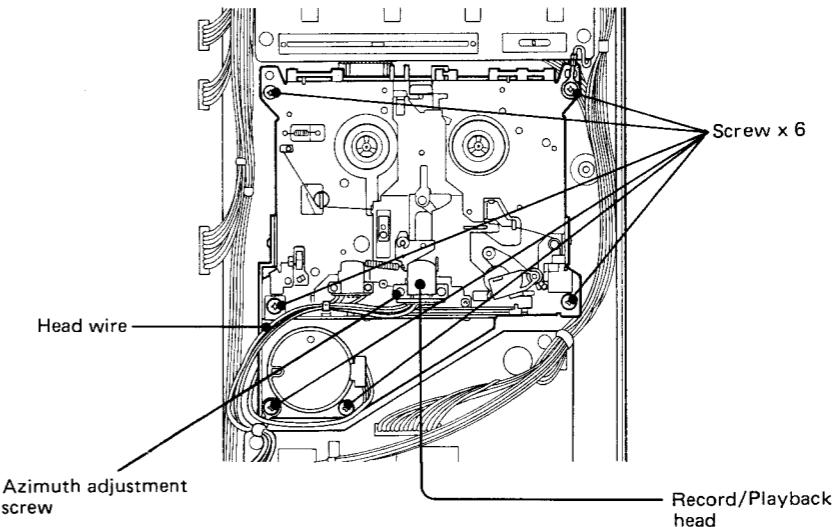
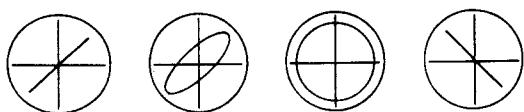

Fig. 7-2 Mechanism Assy
Fig. 8-4
Remove the top case and pull off the six screws holding the mechanism assembly mounted on the bottom case. (Fig. 7-2)
- 3) First reproduce a test tone of 315 Hz, and coarsely adjust the azimuth adjusting screw (Fig. 7-2) to obtain approx. zero phase difference as shown in the Fig. 8-4. Next, reproduce a high frequency tone of 10 kHz and proceed to the fine adjustment.
- d) Adjust the trim pot RM09 (RM11) (Refer to Fig. 7-2) provided on the CPU PCB with a small "--" driver to obtain  $3000 \text{ Hz} \pm 5 \text{ Hz}$  reading on the frequency counter.